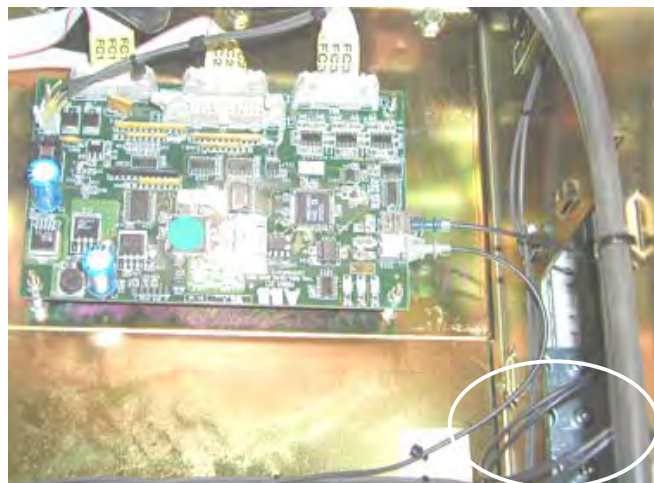

Figure 7.38. Looping of the not needed lengths of optical fiber
- Ensure that the optical fibers are properly fixed. Unnecessary long optical fibers can be looped as shown in Figure 7.38.